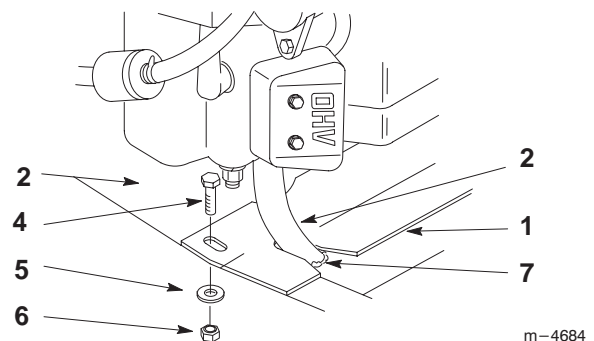

Figure 6
1. Position heat shield on top of the engine deck with large slots toward the rear of the machine. Align slots in heat shield with holes or slots in engine deck (Fig. 6).
2. Install bolts, flat washers, and locknuts. Do not tighten hardware. (Fig. 6).
5. Position heat shield as far rearward as possible and tighten bolts, flat washers and locknuts (Fig. 6).